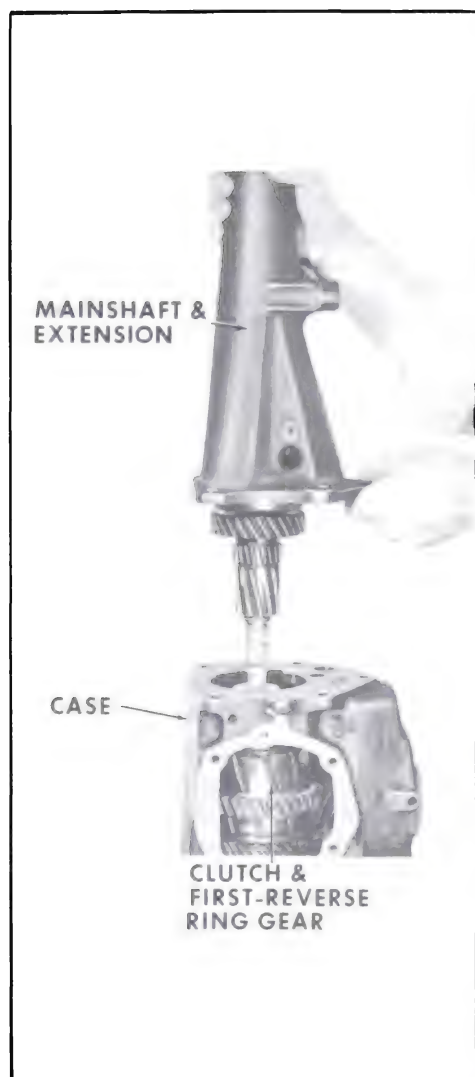

Figure 4-20—Mainshaft Removal
2. Remove extension-to-transmission case bolts and lock washers. Pull extension and mainshaft assembly from transmission case, leaving second and first-reverse ring gear in the case. Do not force the mainshaft. If necessary, rotate the second-third speed clutch slightly to aid removal. See Figure 4-20.